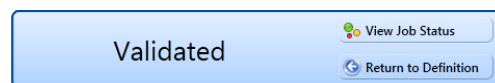

Figure 10-23. Validated Message
- 16 To validate the Bridge definition, click the **Prevalidate** button. When the validation process completes and the following message displays, click **View Job Status** to open the *Job Status* window or **Return to Definition** to open the *Definitions window* (Figure 10-23).